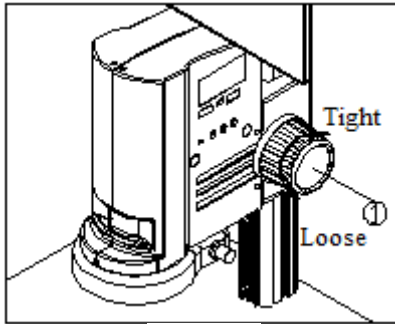

Fig. 5
- 1) To adjust the focusing tension, grip the left knob and rotate the right knob ①. It will be tighten when rotated in clockwise, while loosen in counter-clockwise. (See Fig.5)